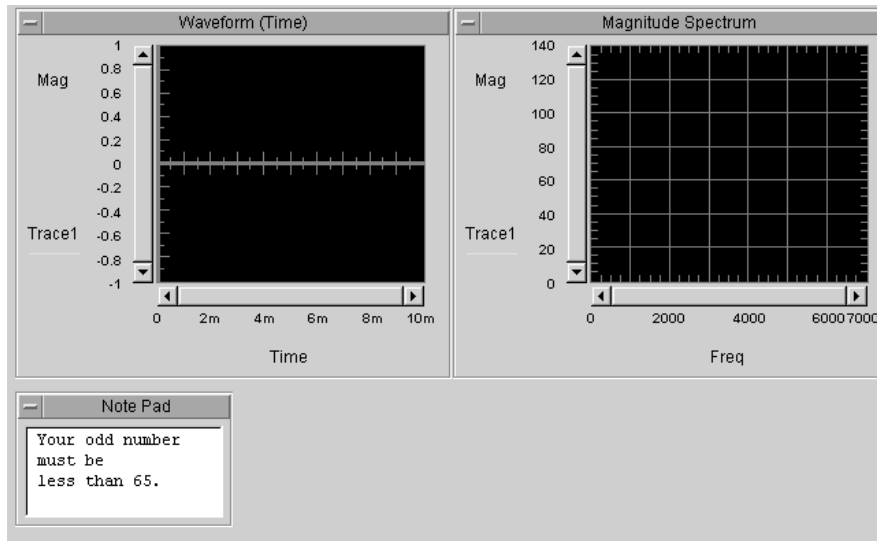

Figure 18.16. LAB 18.3 panel before running
29. Hold down your Ctrl key and click on Note Pad, Waveform (Time), and Magnitude Spectrum to highlight them; *right-click* anywhere on the Main white space; select Add to Panel. Expand the displays and move the Note Pad and place it under Waveform (Time). See Figure 18.16.